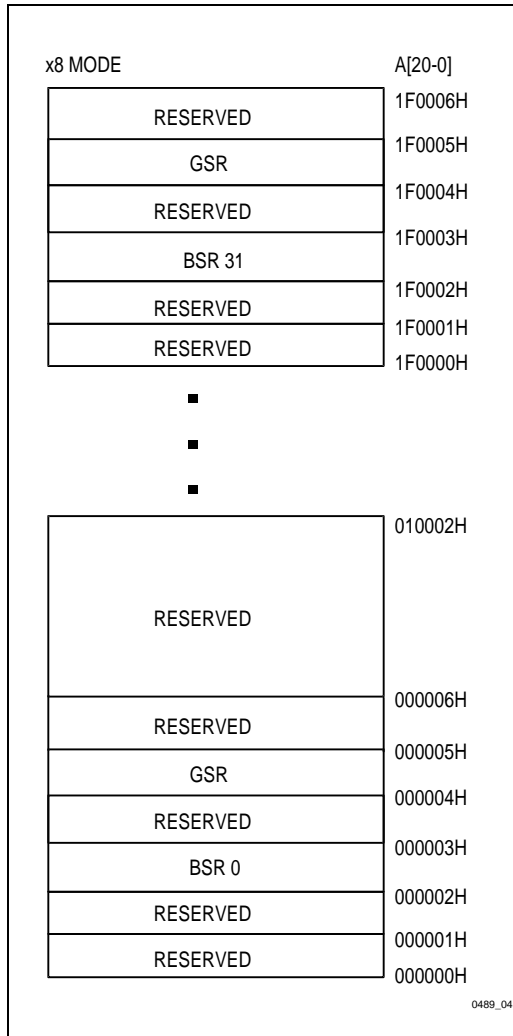

Figure 5. Extended Status Register Memory Map (Byte-Wide Mode)
1. RA can be the GSR address or any BSR address. See Figures 5 and 6 for Extended Status Register MemoryMaps.